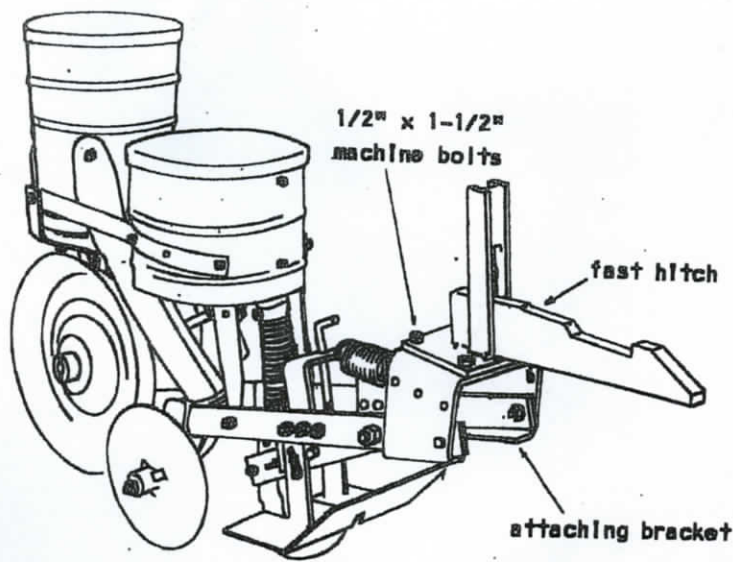

Fig. 8
5. Mount the planter to the fast hitch. (See Figure 8) Place the fast hitch, as shown, on top of the planter attaching bracket using the four 1/2" x 1-1/2" machine bolts, lock washers and nuts.